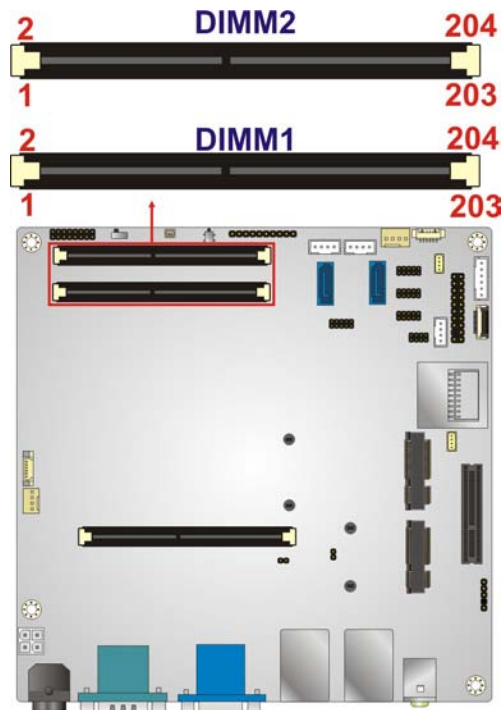

Figure 3-7: DDR3 SO-DIMM Slot Location
- CN Location: See **Figure 3-7**